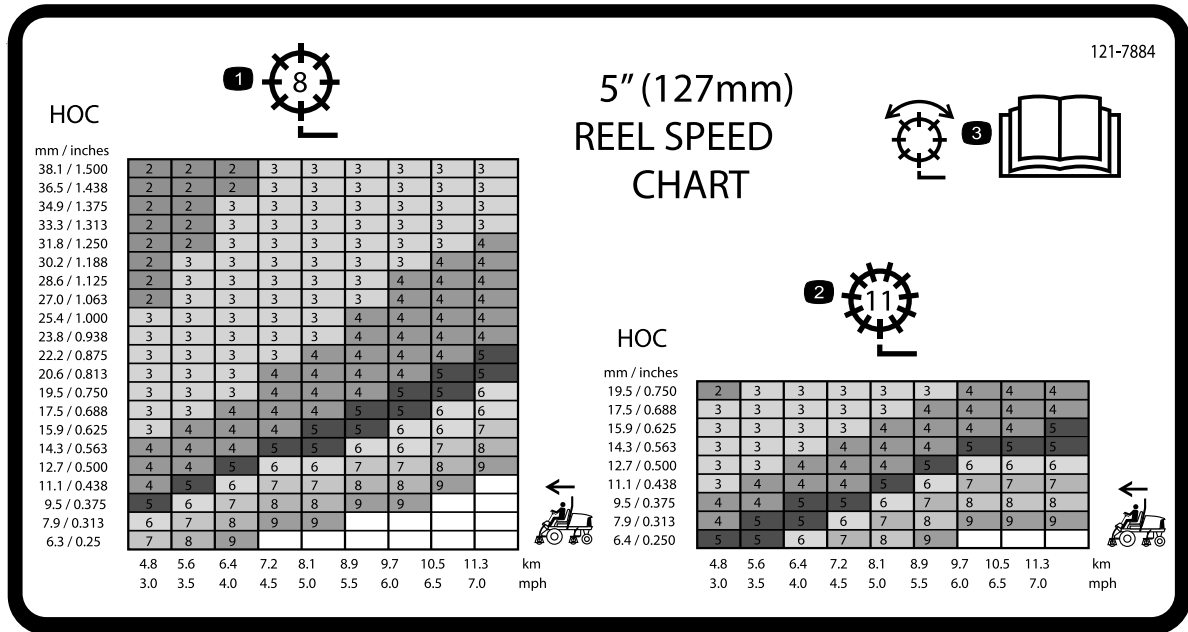
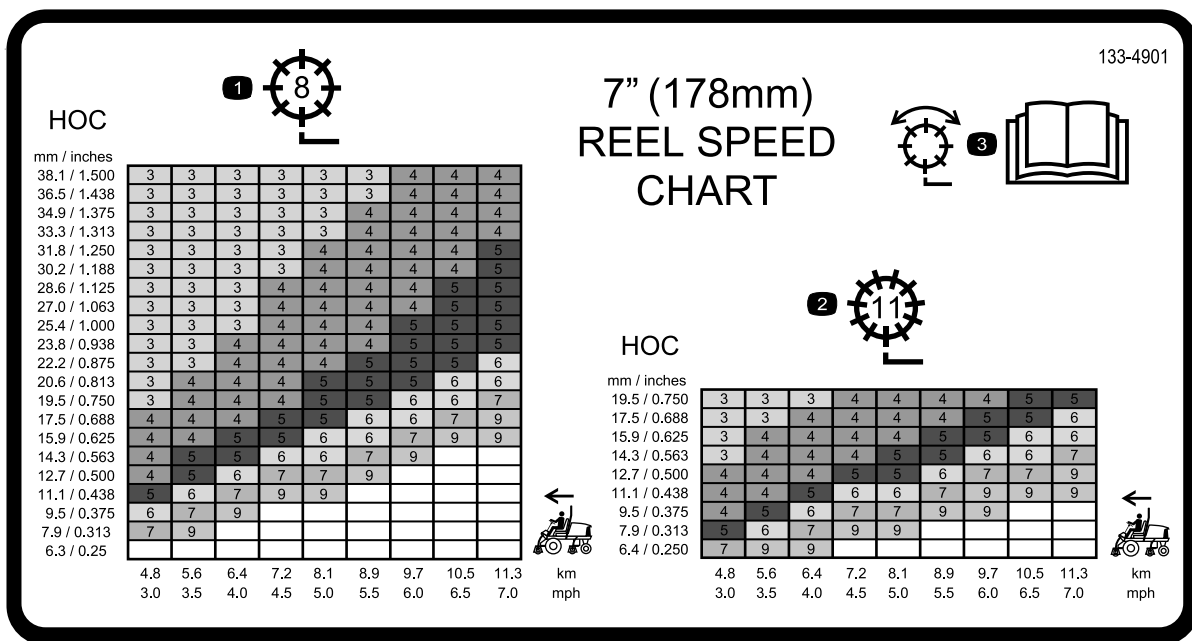

Figure 30
Figure 31
3. Use the graph on the reel speed chart decals (Figure 30 and Figure 31), to determine the proper reel speed setting.